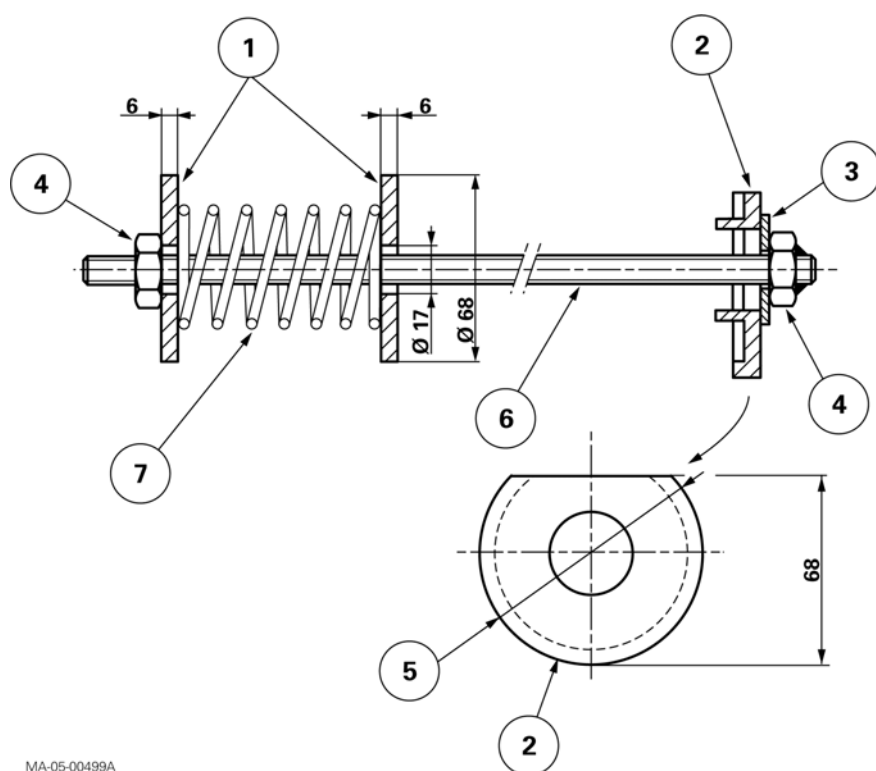

Fig. 8
• Shaft holding tool (Fig. 8)
- (1) Locally adapted washer MF 1610037M2
- (2) Washer MF 3619200M2 to be machined
- (3) Washer LL 2U:
- (4) Nut HM10
- (5) ext. $\varnothing = 79.7 + 0 / - 0.2$
- (6) Threaded rod M10 x 150: L = 1150
- (7) Spring: